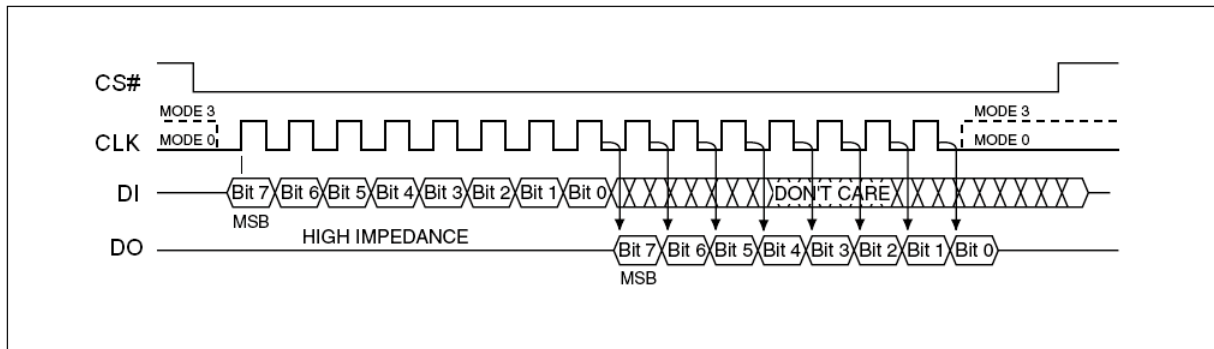

Figure 3. SPI Modes
The EN25F20A (2N) is accessed through a SPI compatible bus consisting of four signals: Serial Clock (CLK), Chip Select (CS#), Serial Data Input (DI) and Serial Data Output (DO). Both SPI bus operation Modes 0 (0,0) and 3 (1,1) are supported. The primary difference between Mode 0 and Mode 3, as shown in Figure 3, concerns the normal state of the CLK signal when the SPI bus master is in standby and data is not being transferred to the Serial Flash. For Mode 0 the CLK signal is normally low. For Mode 3 the CLK signal is normally high. In either case data input on the DI pin is sampled on the rising edge of the CLK. Data output on the DO pin is clocked out on the falling edge of CLK.